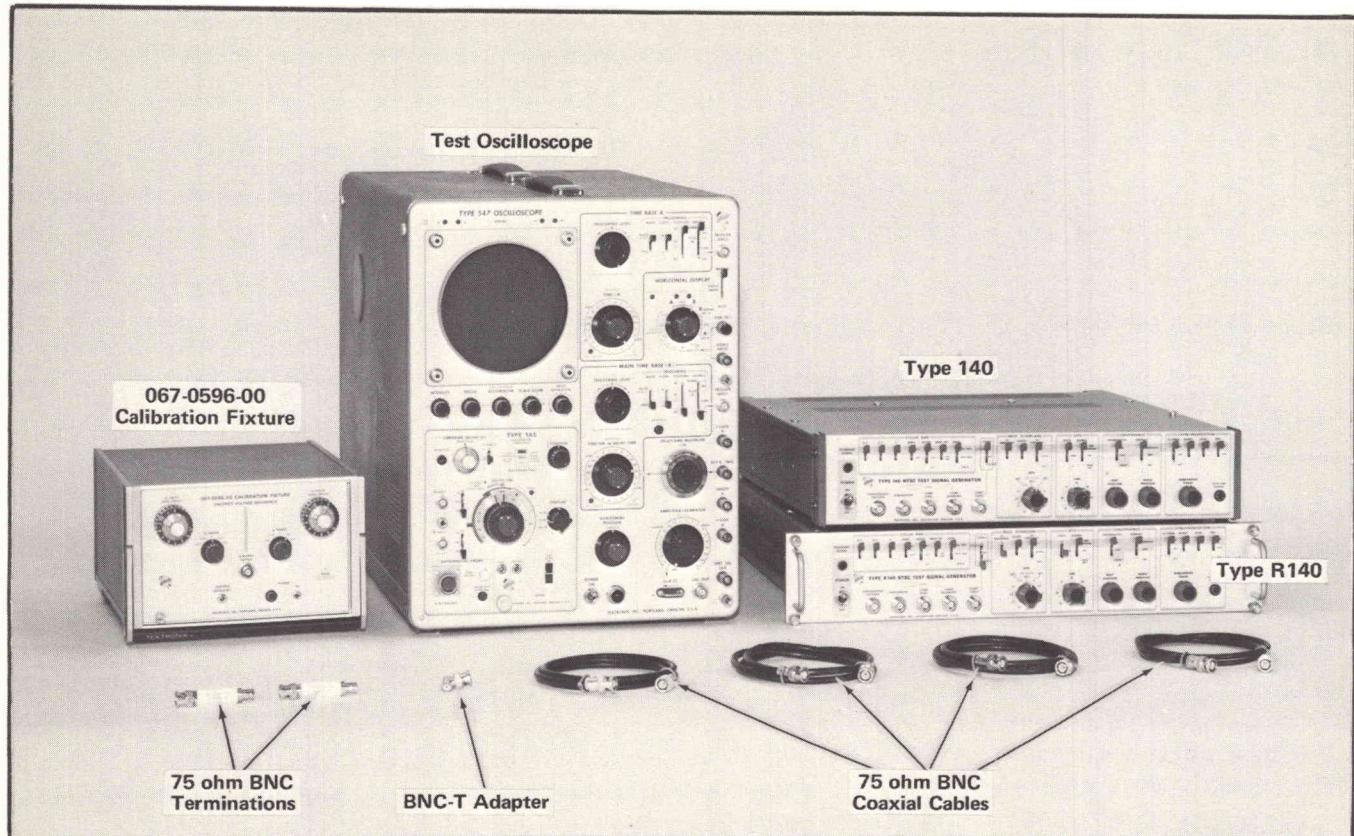

Fig. 5-35. Test equipment required for steps 32 through 42.
32. Check/Adjust Staircase Level Amplitudes (1)
- Test equipment is shown in Fig. 5-35.